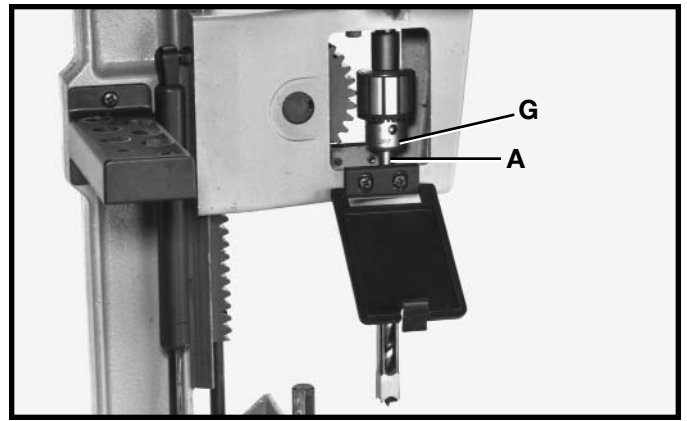

Fig. 23
4. Push bit (A) Fig. 23, up through chisel and into chuck (G) as far as it will go, and then back the bit off 1/16", and lock bit in chuck using chuck key supplied.